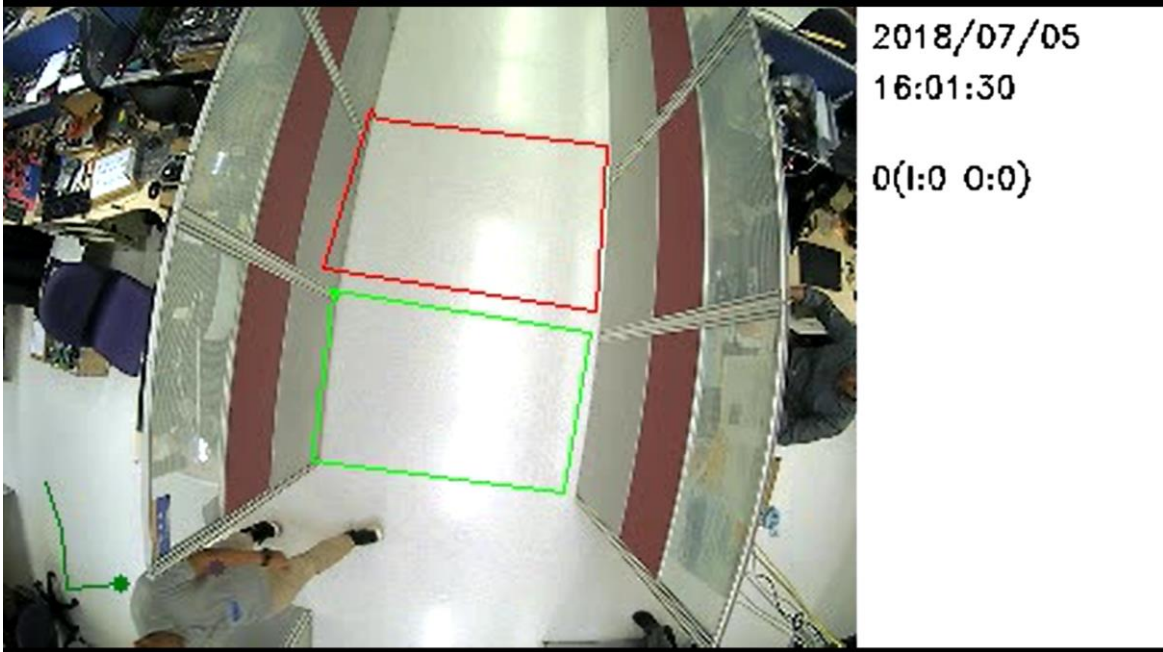

Figure-32, Mark Human as an Objects
(1) The UCAM mark human as an object (Figure-32).